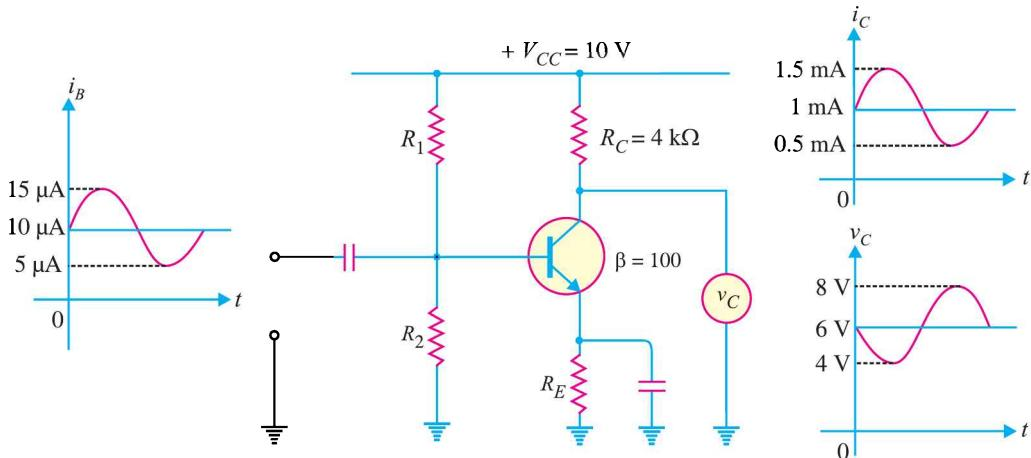

Fig. 10.7
**Solution.** In every type of amplifier, the input and output currents are in phase. However, common emitter amplifier has the unique property that input and output voltages are  $180^\circ$  out of phase, even though the input and output currents are in phase. This point is illustrated in Fig. 10.7. Here it is assumed that *Q*-point value of  $I_B = 10 \mu\text{A}$ , ac signal peak value is  $5 \mu\text{A}$  and  $\beta = 100$ . This means that input current varies by  $5 \mu\text{A}$  both above and below a  $10 \mu\text{A}$  dc level. At any instant, the output current will be 100 times the input current at that instant. Thus when the input current is  $10 \mu\text{A}$ , output current is  $i_C = 100 \times 10 \mu\text{A} = 1 \text{ mA}$ . However, when the input current is  $15 \mu\text{A}$ , then output current is  $i_C = 100 \times 15 \mu\text{A} = 1.5 \text{ mA}$  and so on. Note that input and output currents are in phase.
Note that as  $i_C$  increases from  $1 \text{ mA}$  to  $1.5 \text{ mA}$ ,  $v_C$  decreases from  $6 \text{ V}$  to  $4 \text{ V}$ . Clearly, output voltage is  $180^\circ$  out of phase from the input voltage as shown in Fig. 10.7.